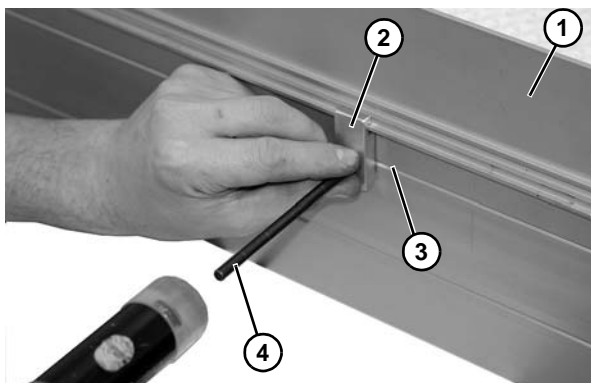

**Figure 18**
3. Hand tighten the screws to secure (**Figure 18**). Recommended torque is 150 in-lb (17 Nm).